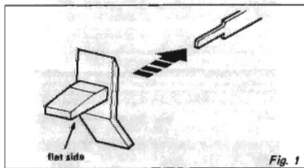

Fig. 1
- Remove nuts (1) through (4) shown in Photo 7 and remove lever switch knobs (5) and (6) and screws (7) through (10). When lever switch knob is installed, when viewed from above the chassis, it will appear as shown in Figure 1.